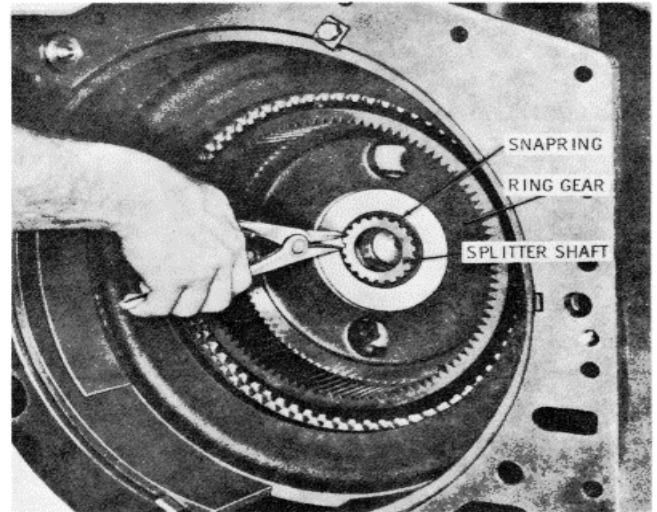

Figure 15-64. Removing Splitter Output Shaft Snap Ring
1. Remove the snap ring which retains the splitter ring gear hub to the splitter output shaft (Figure 15-64).